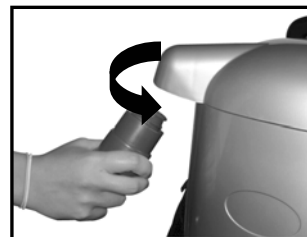

Fig. 6
- To connect the flexible hose into the hose inlet, insert the threaded end of the flexible hose into the hose inlet and turn counter-clockwise until it locks into place. (Fig. 6)